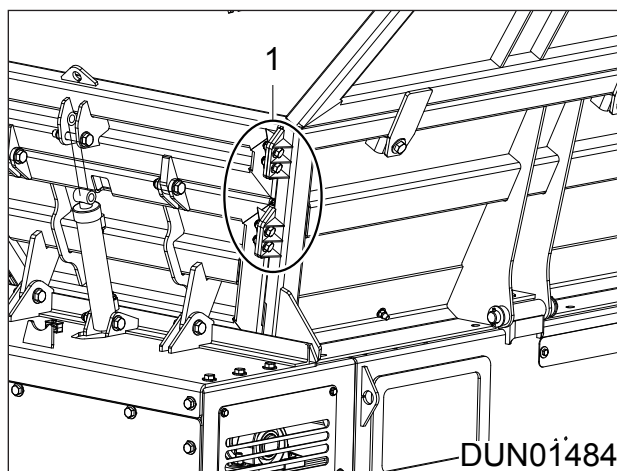

Figure 6.21 - Securing Bolts
5. Secure the hopper sides to the rear hopper door by inserting the 4 bolts on either side (Item 1; Ref. Figure 6.21).